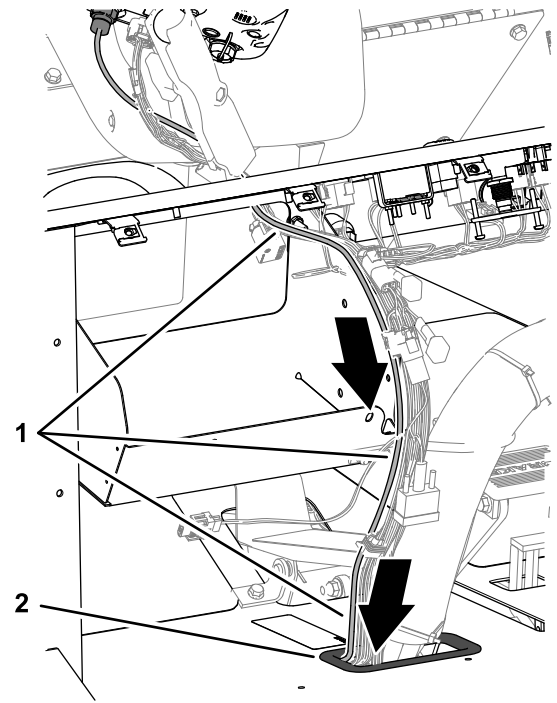

Figure 66
2. Route the modem data cable along the wire harness of the machine, and through the grommet in the floor plate (Figure 66).